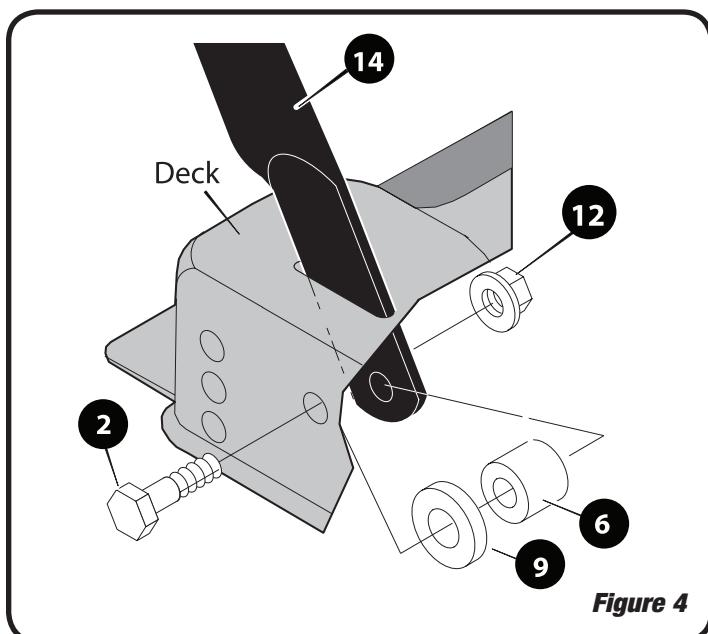

Figure 4
2. Insert the lower handle (item 14) into and through the slots on each side of the rear of the deck, and align the holes in the deck with the holes in the lower handle. See Figure 4.
3. On each side of the lower handle and deck, insert the hex head shoulder bolt through the deck, the washer (item 9), the spacer (item 6) and through handle (item 14).
4. Secure the hex head shoulder bolt using the flange nuts (item 12).